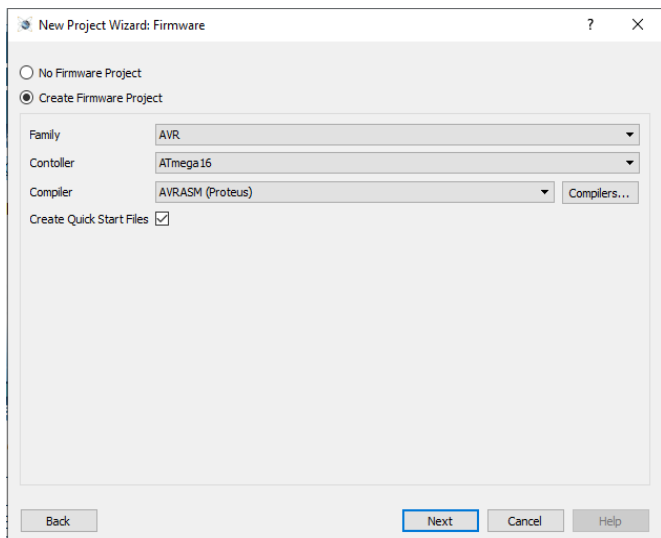

Figure 5: New Project Wizard: Firmware
Step 6: Click on firmware project, select the family-AVR, Controller- ATmega16/ ATmega32 and Compiler-AVRASM(Proteus) as shown in figure 5 and click on Next. It will show you summary of your project as shown in figure 6.